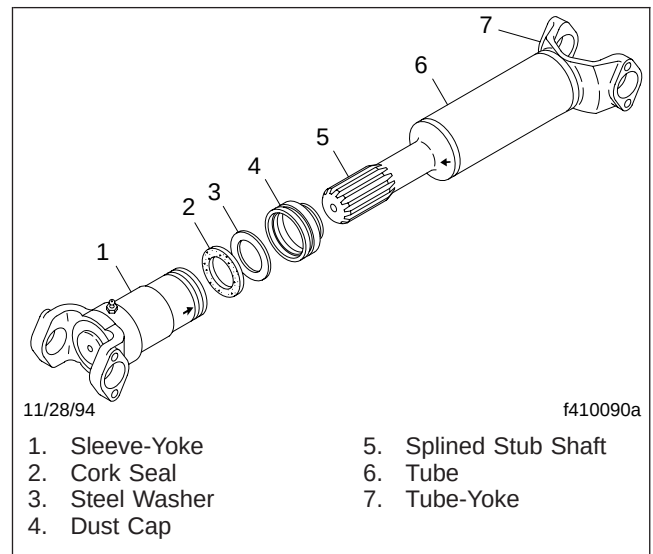

Fig. 10, Slip-Joint Components
2. With the driveshaft uncoupled at one end, *or* removed from the vehicle, use a strap wrench to unscrew the slip-joint dust cap from the sleeve-yoke, then pull the sleeve-yoke off of the splined shaft. Remove the dust cap, and (if so equipped) the steel washer and cork seal. See Fig. 10.